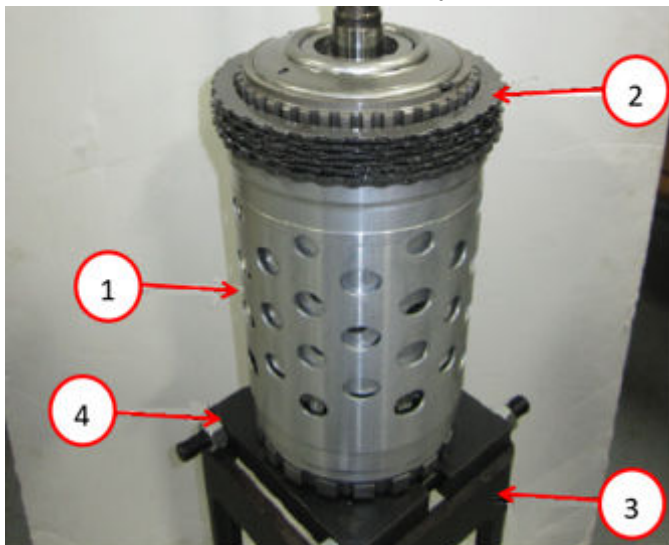

Fig. 20
27. Position the input/output shaft and P4 annulus drum assembly on a press fixture Fig. 20.